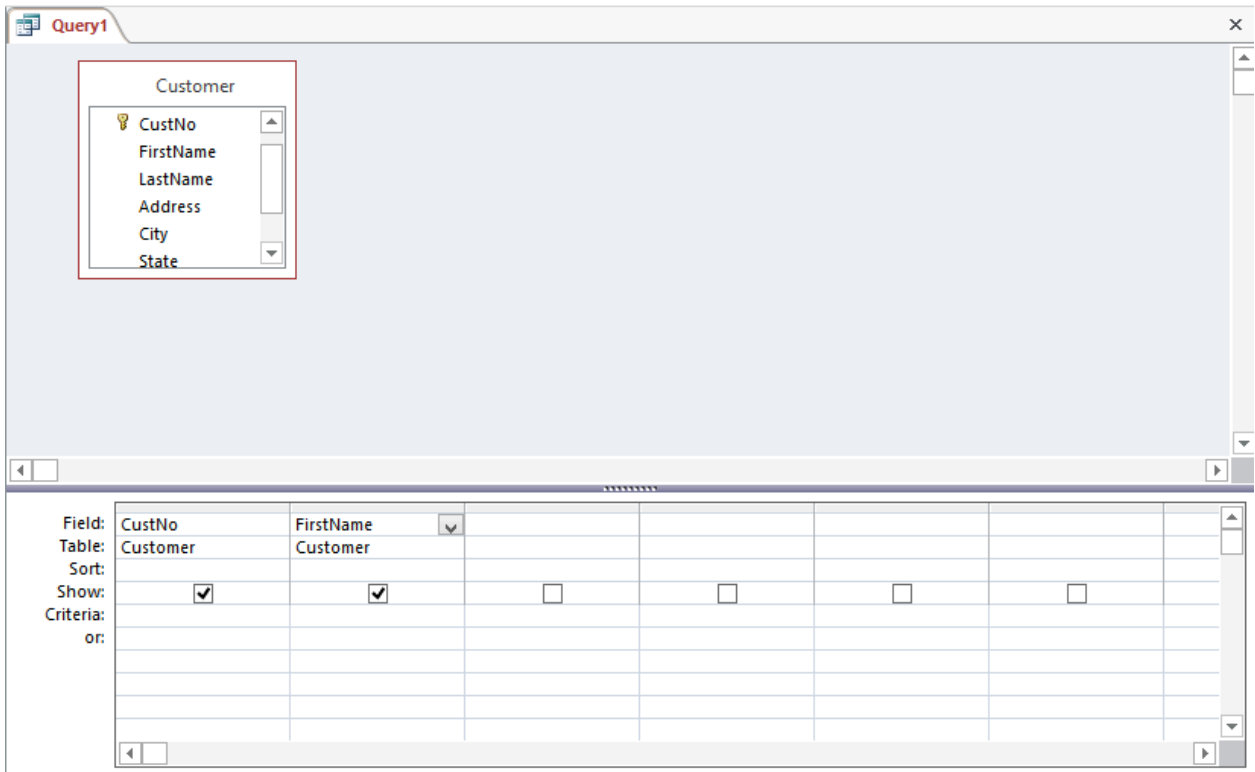

Figure 4: First Two Fields in Query Design View
6. Drag Fields into the New Query: To obtain query results, you must put some *Customer* field names into the empty field spaces of the query table. Drag and drop⁶ the *CustNo* field name from the *Customer* table to the first column and row in the empty query table. After releasing the mouse button, the field name appears in the grid. Repeat the process to place the *FirstName* field in the next empty column of the first row (see Figure 4).
7. Use a Different Field Selection Technique: To place the next field, *LastName*, use an alternative method. This time, just click into the next empty column of the first row and a small gray arrow appears (see Figure 4). Click the arrow and a list of the *Customer* fields appears. Select *LastName* from the list.